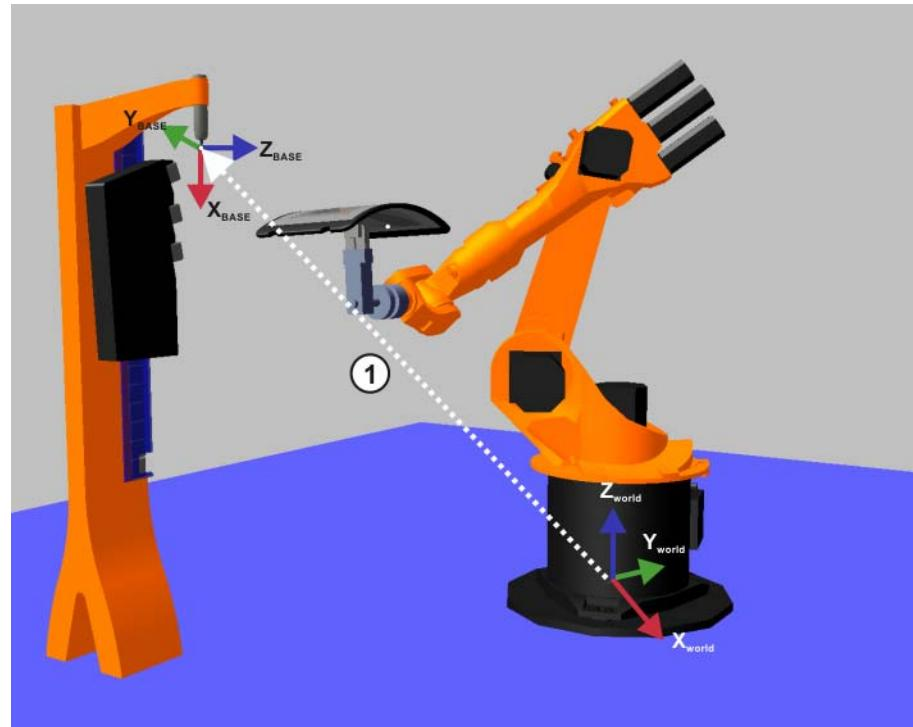

Fig. 3-37: Calibration of the fixed tool
As illustrated in (1) (>>> Fig. 3-37), the external TCP is managed relative to \$WORLD (or \$ROBROOT), i.e. in the same way as a base coordinate system.